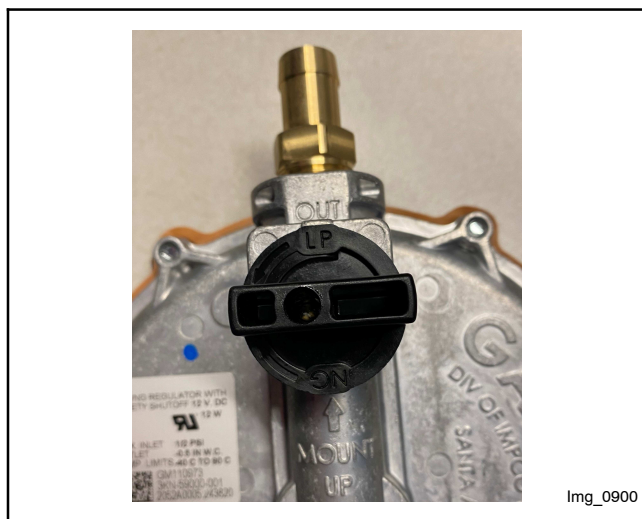

Figure 1-15 Knob Position, LPG
- b. For LPG, turn the selection knob counterclockwise as far as it will go, approximately 1/4 turn. See Figure 1-15.